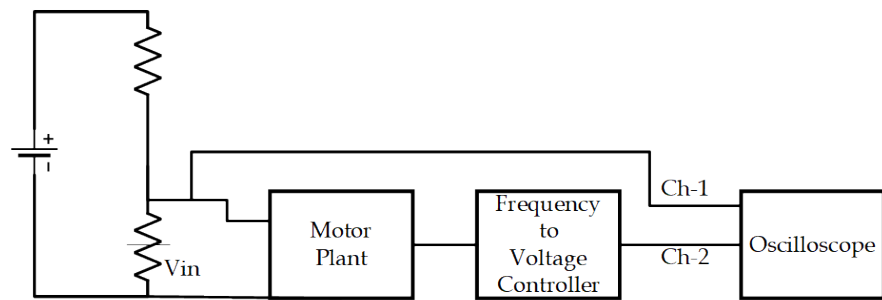

Figure 0.1: Open-loop speed control setup.
3. Make circuitry as shown in Fig. 0.1 for the implementation of open-loop speed control of a DC motor.